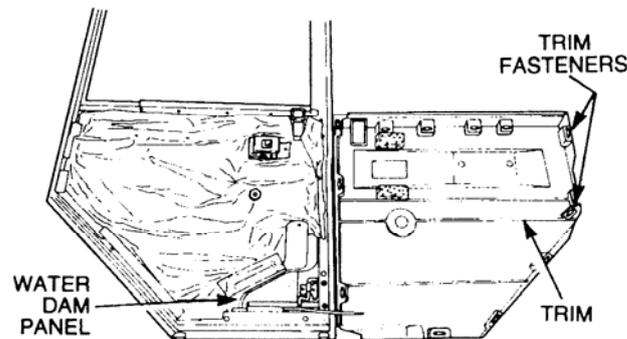

Figure 26 Rear Side Door Trim Removal
- k. Remove the trim (refer Figure 26),